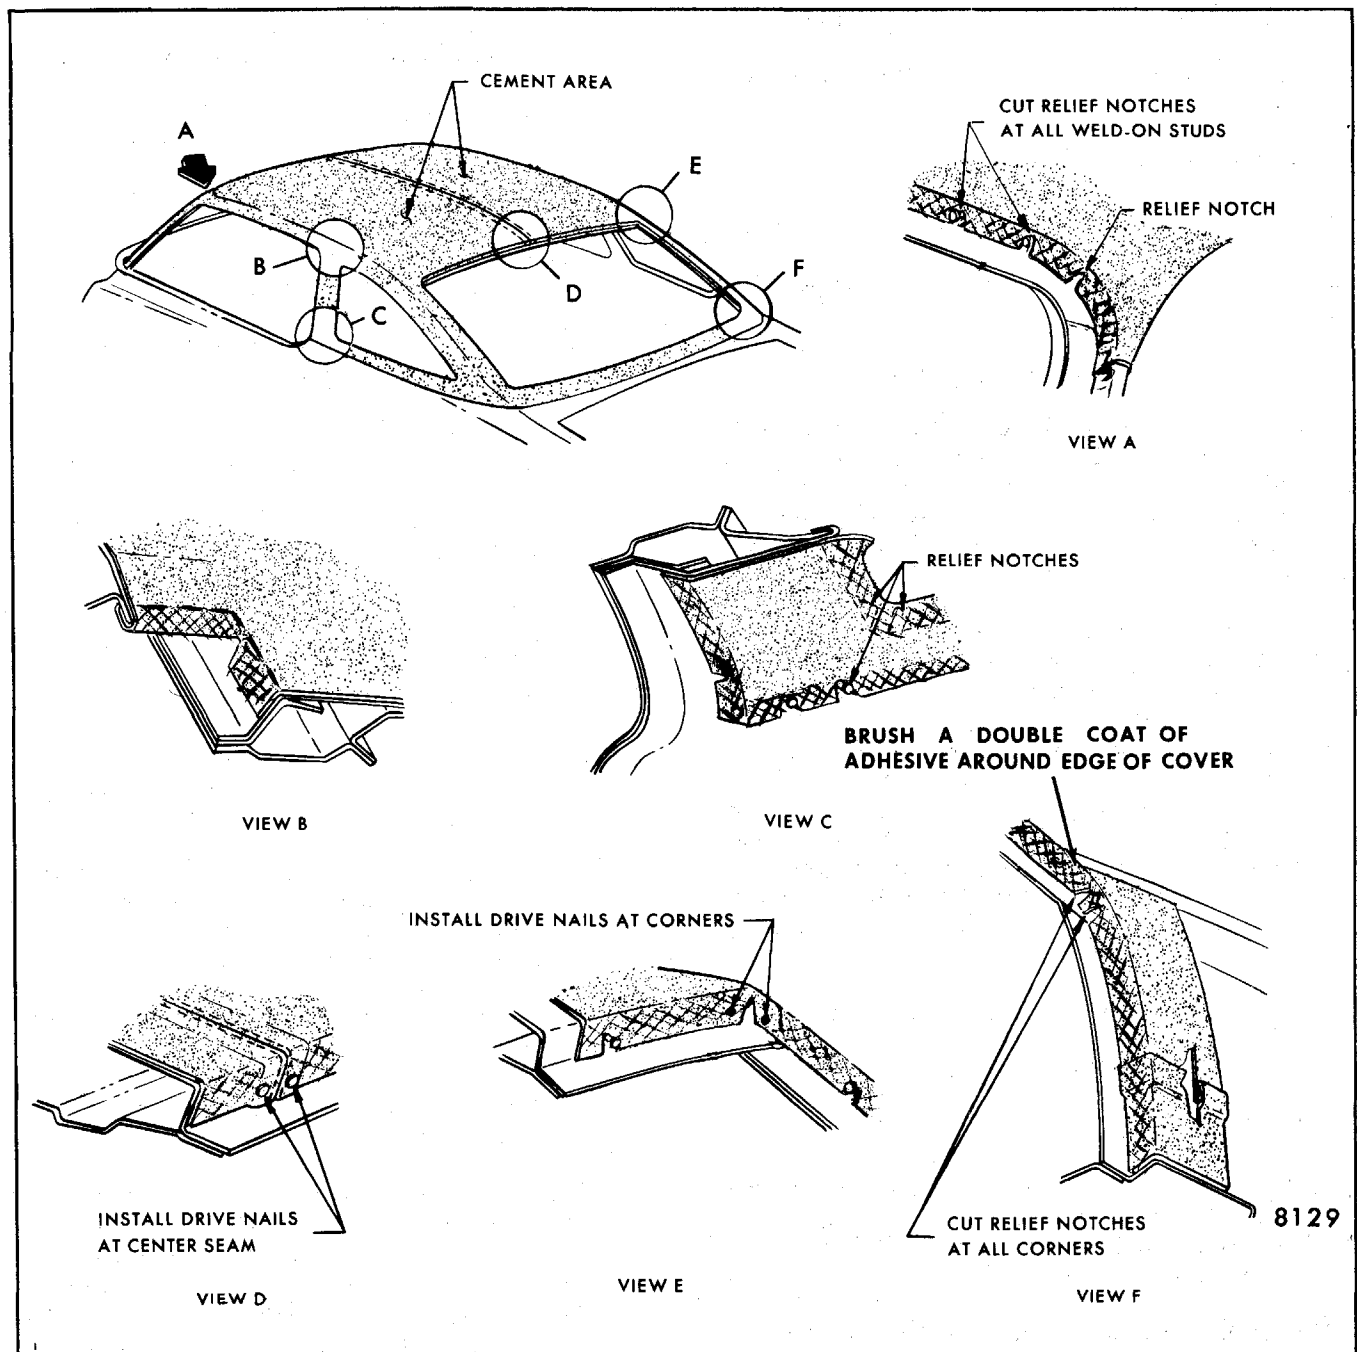

Fig. 8-22-Typical Fabric Roof Cover Installation - "A" Styles
- a. On "A, E, and F" styles, cement cover around and to the underside of roof panel flange and trim cover as shown in Figure 8-22, View "B".